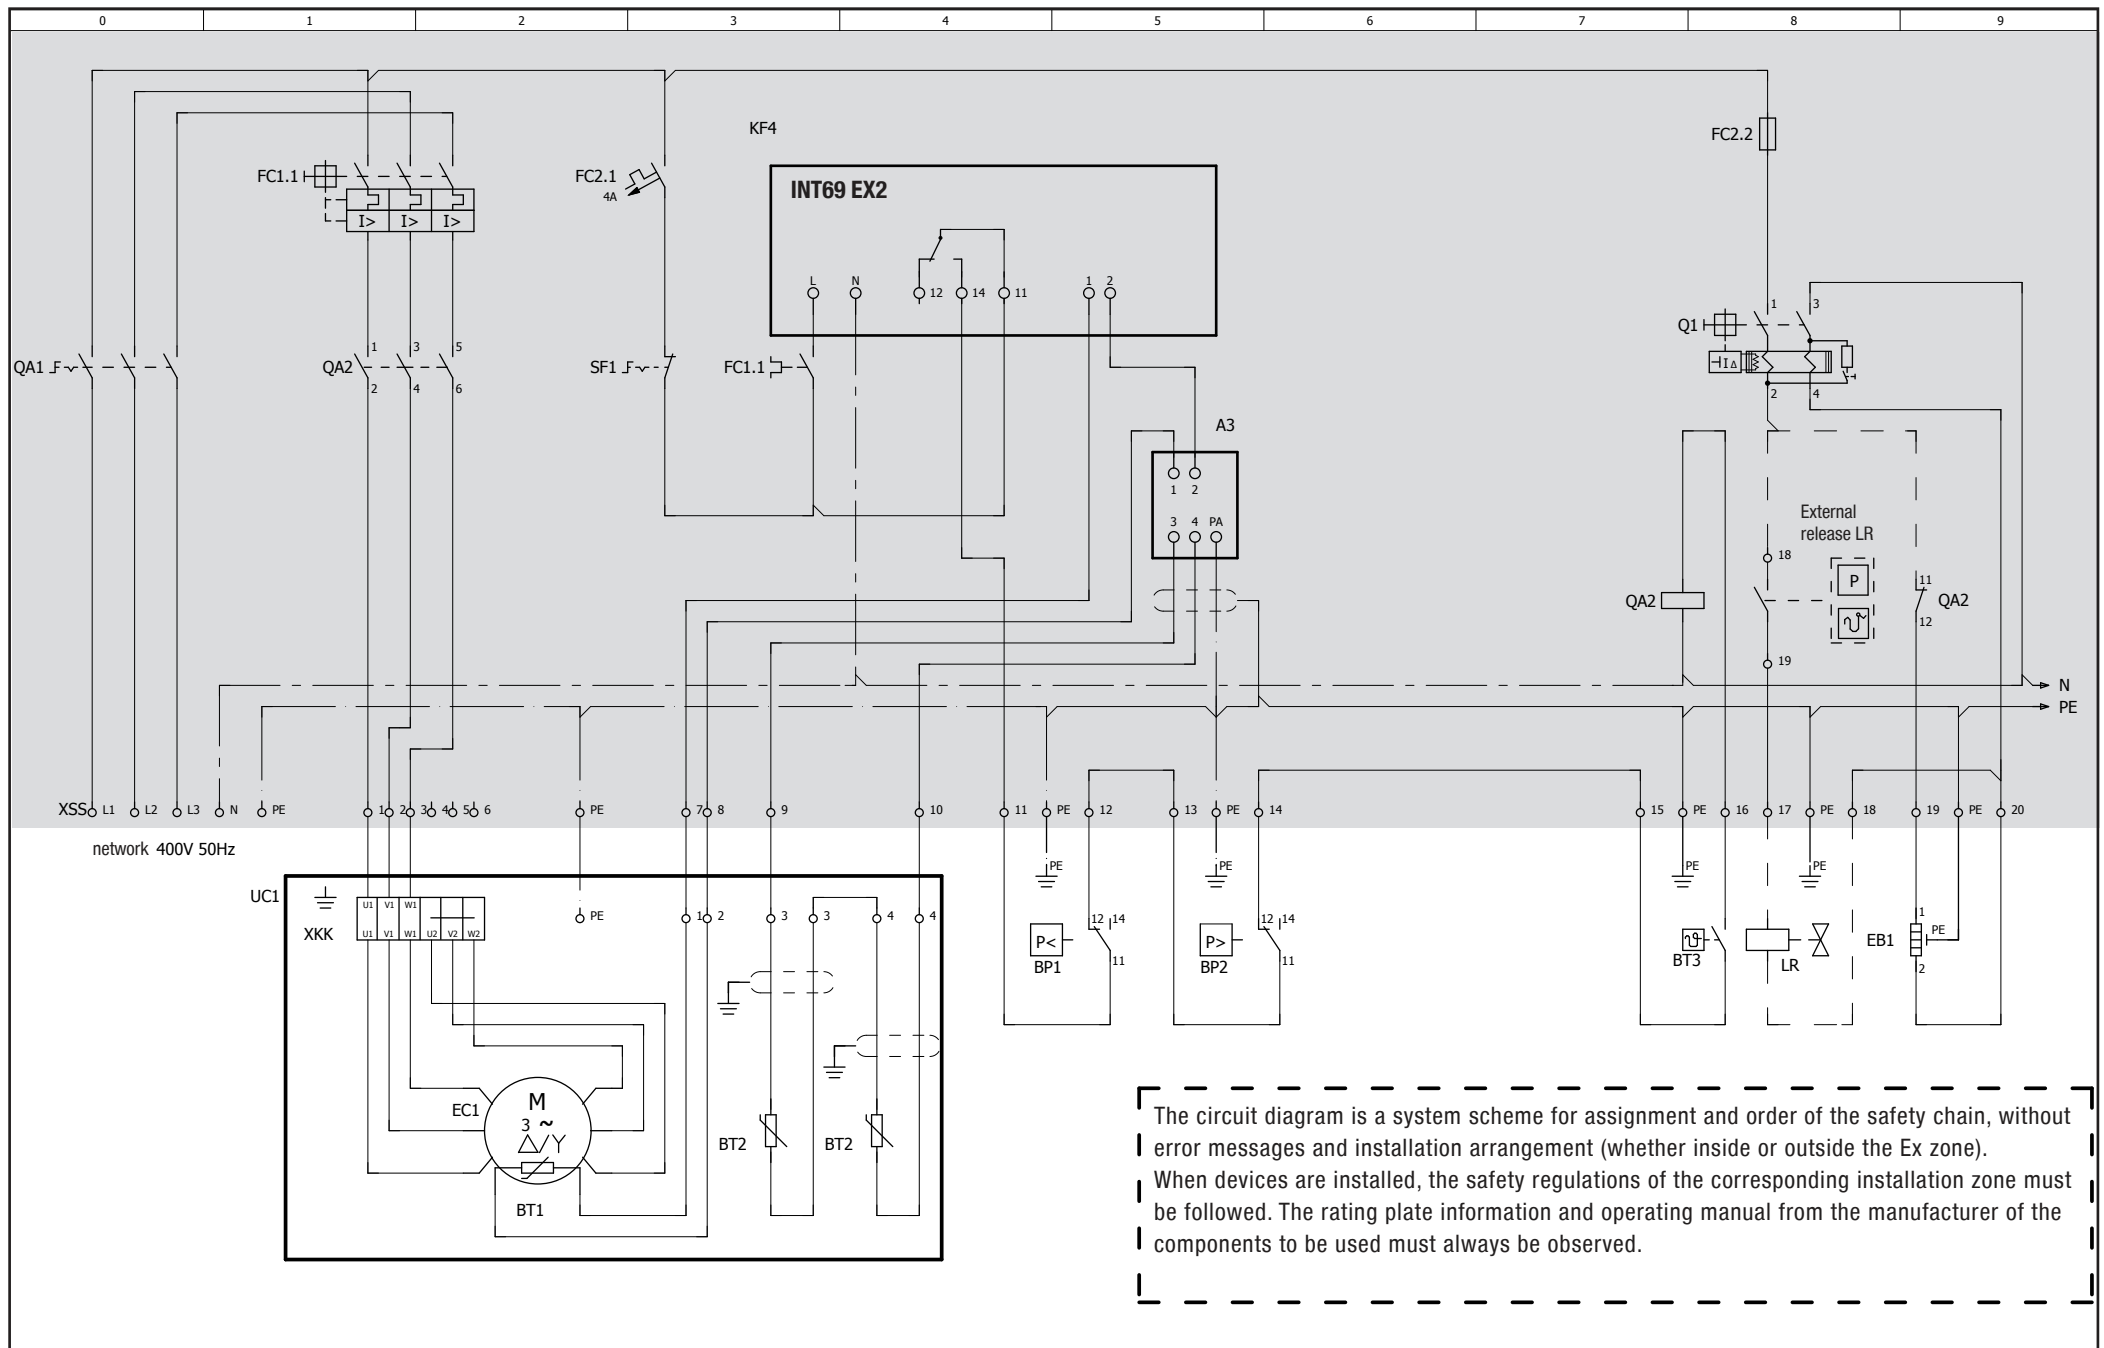

Fig. 19
- Connect the compressor motor according to the circuit diagram (s. fig. 19 or sticker inside the terminal box). Comply with local safety regulations for electrical work, safety standards (within the EU: EN 60204, EN 60335 among others) and regulations for setting up electrical systems in explosion-endangered areas (within the EU: IEC/EN 60079-14 among others).
Wire the PTC temperature sensor of the compressor motor, heat protection thermostats of the cylinder head, pressure and temperature monitoring of the system according to the wiring diagram (fig.19). Pay attention for connecting the PTC sensor.